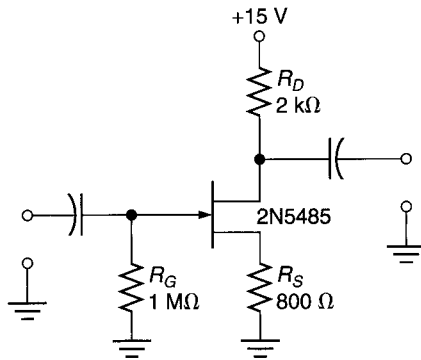

FIGURE 12.57
20. Determine the ranges of  $V_{GS}$ ,  $I_D$ , and  $V_{DS}$  for the circuit shown in Figure 12.57. Assume the JFET is a 2N5485 (which is described in Problem 8).